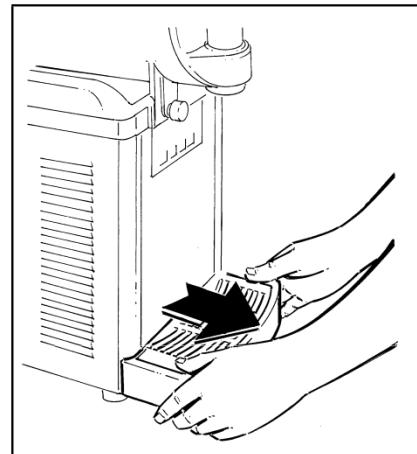

Рис. 32
- Remove the drip tray by pulling it outward (Рис.32).